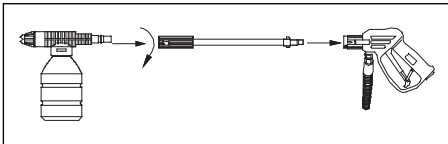

Figure 8 - Attach applicator to gun
4. Attach detergent applicator to gun. ( See Figure 8 )